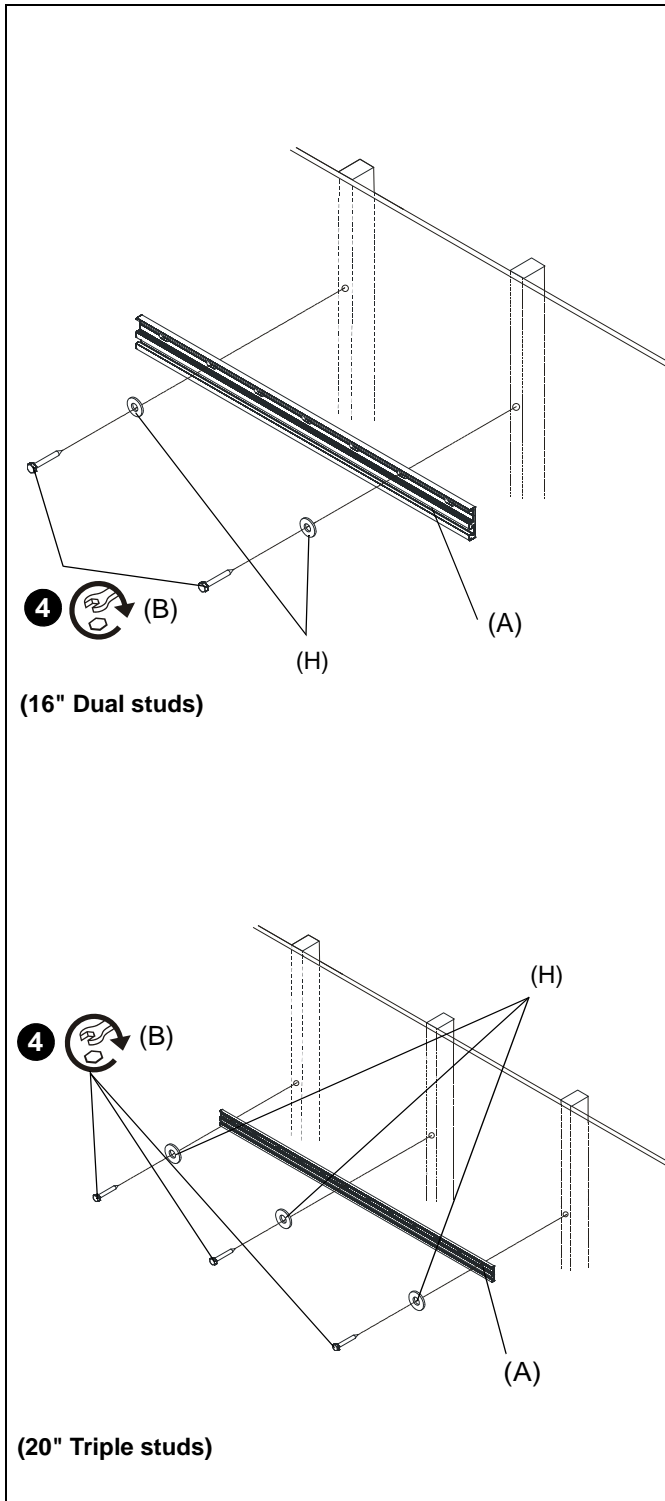

Figure 3
4. Install 5/16-20" hex head lag screws (B) through 5/16" washers (H), ENS lateral shift extrusion and into holes drilled in Step #3. (See Figure 3)